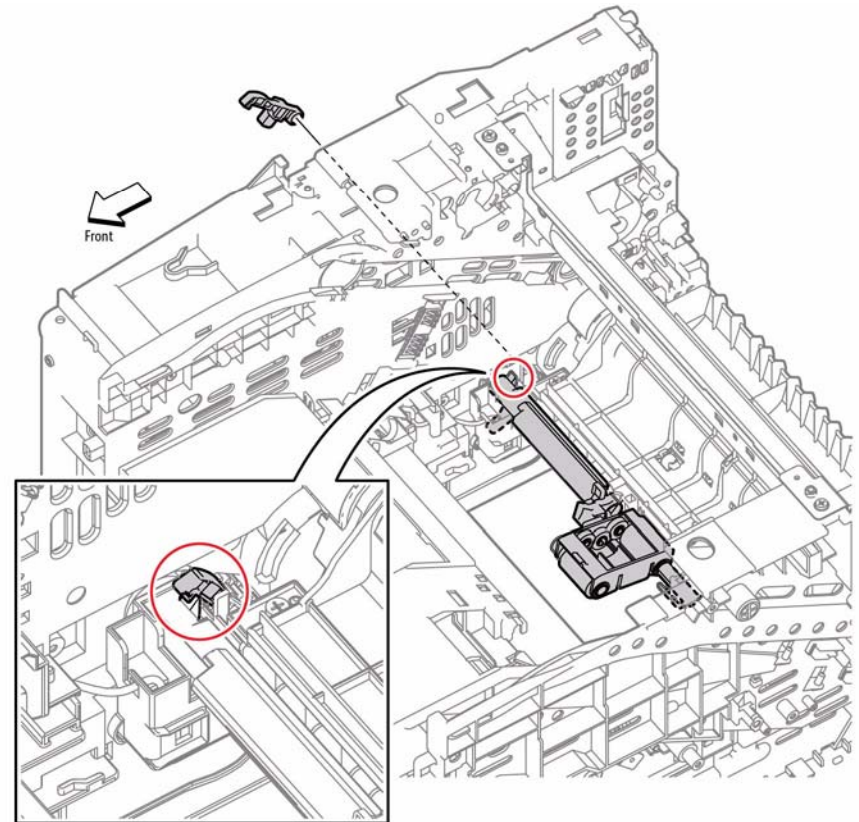

Figure 7 Install the Stopper Arm
2. Refer to Figure 7 when installing the MSI stopper arm. Position the Pick-up Holder Assembly as shown to properly engage the arm.